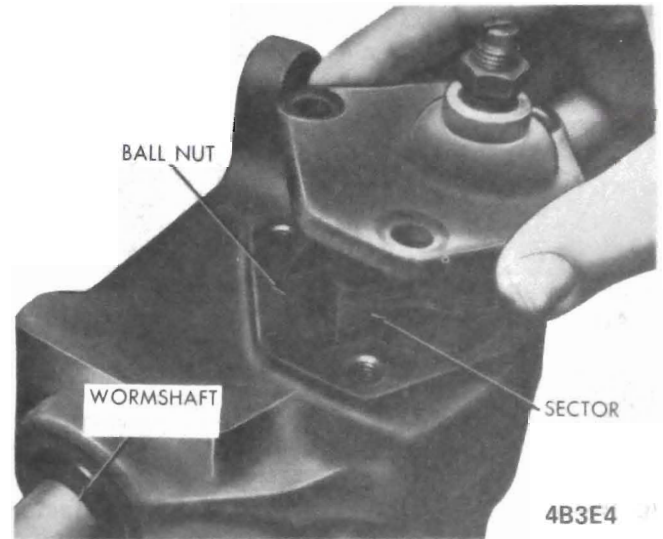

Figure 3E-4 Removing Pitman Shaft Assembly
4. Tap lightly on the end of the pitman shaft with a plastic hammer and lift the side cover and pitman shaft assembly from the gear housing (figure 3E-4).